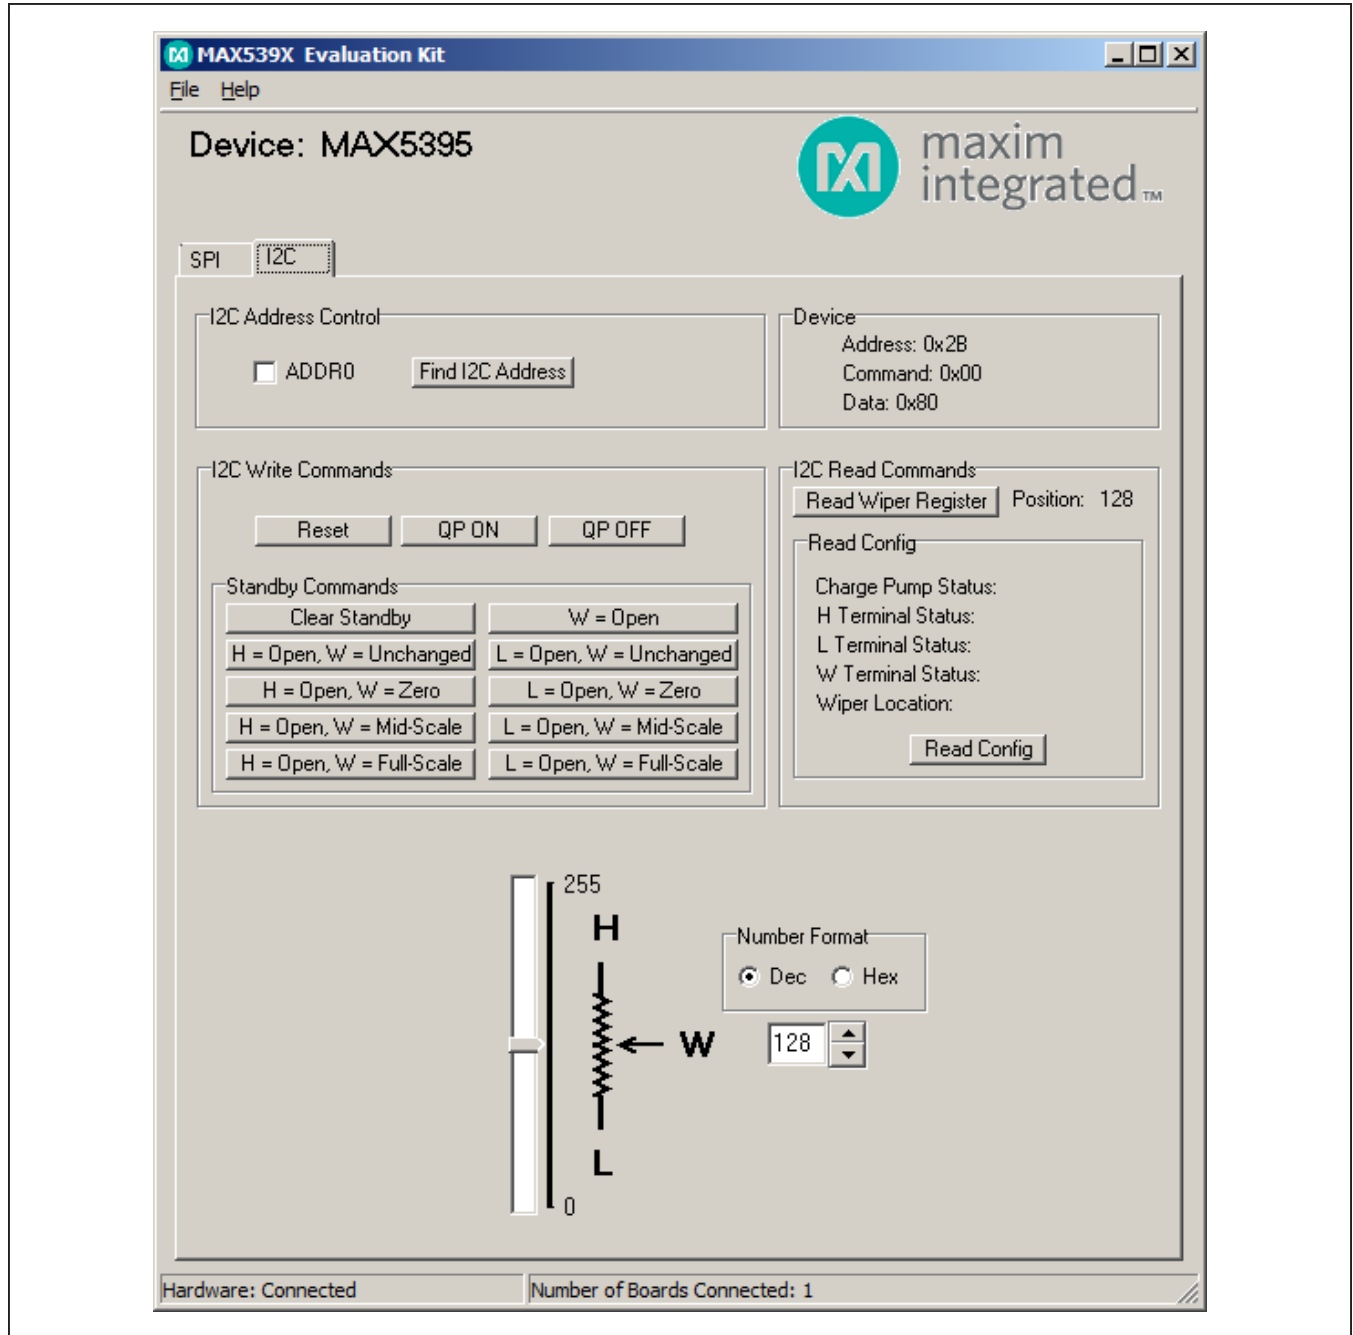

Figure 1. MAX5395L EV Kit Software Main Window
- 6) Start the EV kit software by opening its icon in the **Start | Programs** menu. The EV kit software main window appears, as shown in Figure 1.